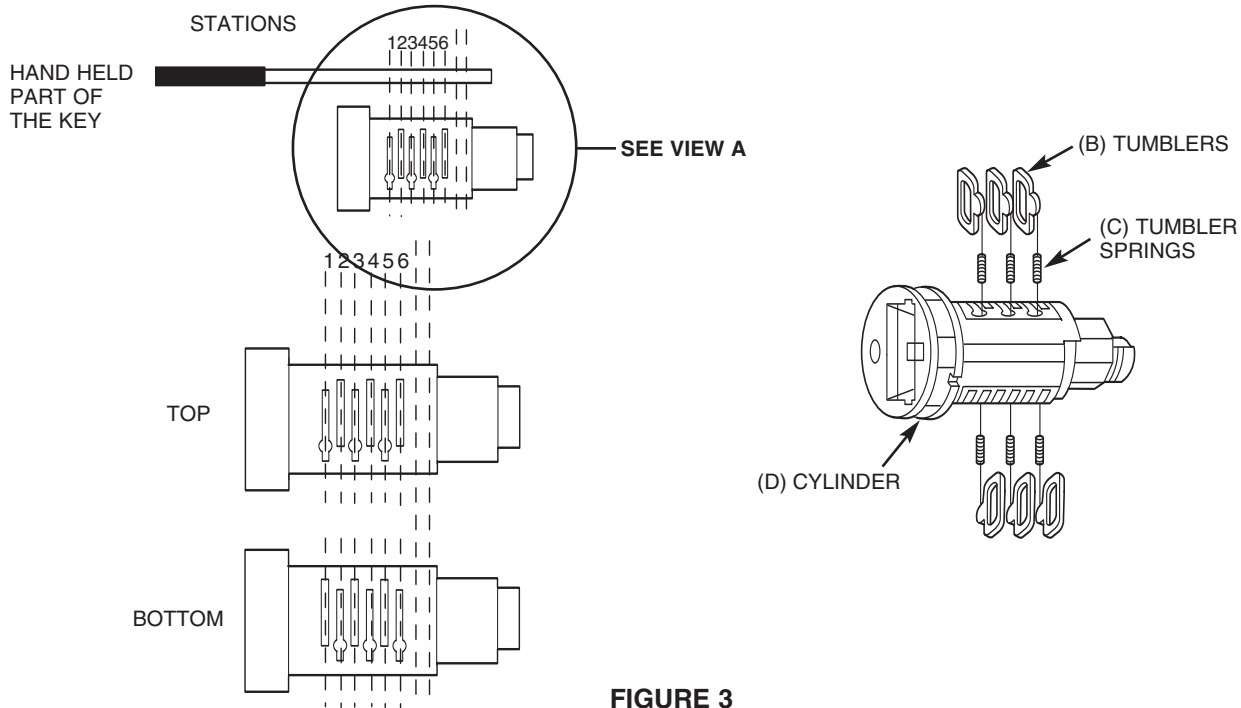
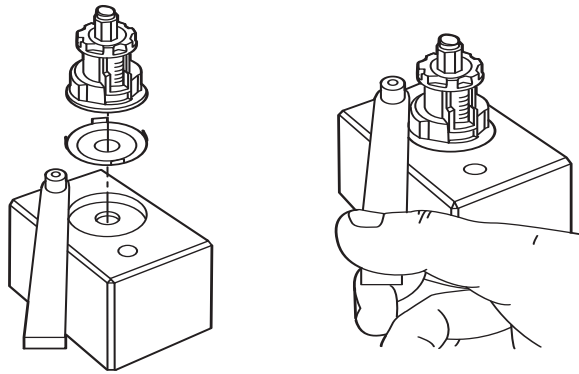

FIGURE 3
FIGURE 5
2. Verify that a shutter (G) is installed in the front of the lock cylinder sub-assembly (D). If not, then insert the shutter spring (H) into the round hole at the front of the lock cylinder (D) and the shutter (G) into the rectangular depression located at the front of the lock cylinder (D).
3. If required, insert the detent spring (M) into groove located on the interior surface of the lock case (E).
4. If required, insert the detent pin (N) into the groove located on the interior surface of the lock case (E).
5. Select the required tumblers (B) according to the key cut depths, for key stations 1, 2, 3, 4, 5, and 6. For example, if the key cut depths codes are 53214124, then use B5 for Station 1, B3 for Station 2, B2 for Station 3, B1 for Station 4, etc. and ignore Station 7 and Station 8.
6. Insert one tumbler spring (C) into each of the holes located at the end of the tumbler slots on the lock cylinder sub-assembly (D).
7. Insert the required tumblers (B) into tumbler slots in the proper orientation (refer to Figure 3) and in the sequence that match the key cut depths, for key stations 1,2,3,4,5, and 6.
8. Insert the key into the key hole and verify that all tumblers (B) are flush with the lock cylinder sub-assembly's (D) exterior surface.
9. With the key in the lock cylinder sub-assembly (D), apply the included grease (F) to the tumbler slots.
10. With the key in the lock cylinder sub-assembly (D), insert the lock cylinder sub-assembly (D) into the lock case (E).
11. Rotate the lock cylinder sub-assembly (D) within the lock case (E) at least ten (10) times so that the grease applied to the tumbler slots is distributed along the inner surface of the lock case (E) and the exterior surface of the lock cylinder sub-assembly (D).
12. Position the key in a vertical orientation and remove the key from the lock cylinder sub-assembly (D) while keeping the lock cylinder sub-assembly (D) within the lock case (E).
13. (Refer to Figure 5) to place the shutter cover (I) (depending on the cover originally installed) in the depression on crimping tool (Rotunda Tool number 501-051, refer to the instructions for the crimping tool). Place the lock case (E) on top of the shutter cover (I) (make sure that the lock cylinder sub-assembly (D) does not fall out of the lock case(E)). To secure the cover to the head of the lock case (E), use the swing arm on the crimping tool to crimp four tabs on the shutter cover (I).